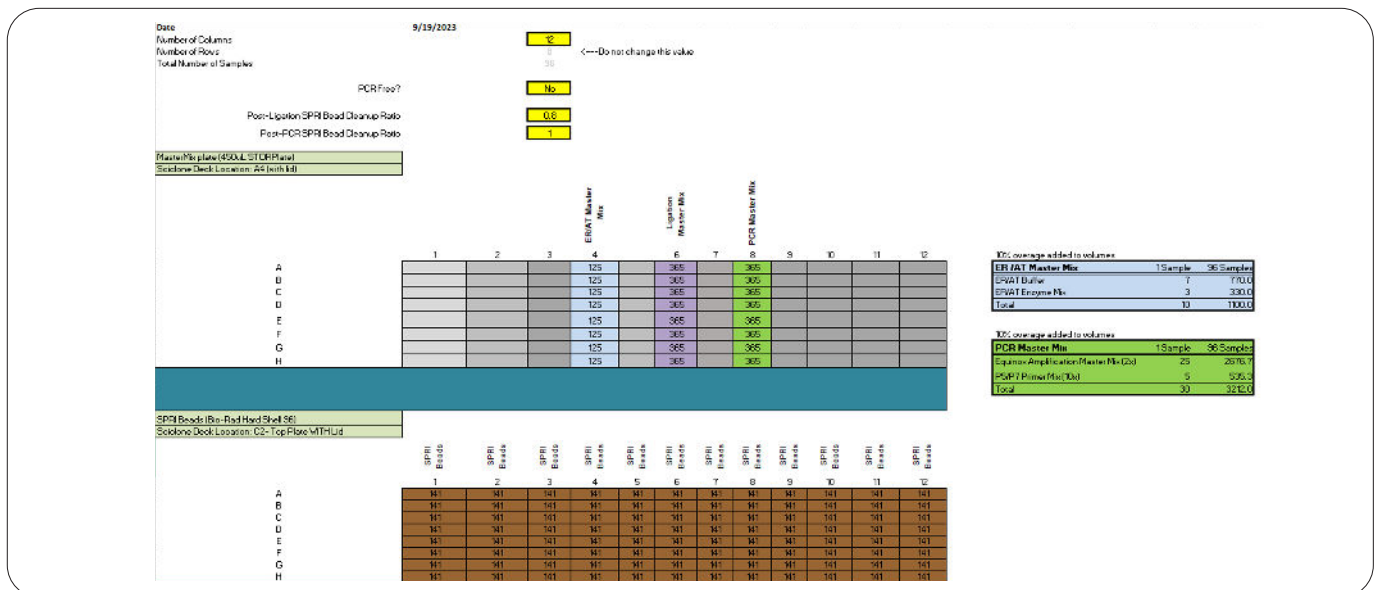

Figure 2. Watchmaker DNA Library Prep Kit reagent workbook available with the Sciclone® application.
- Reagent Workbook:** Includes master mix formulations, volumes, plate types and relevant deck locations of all reagent-containing consumables required to run (Figure 2)